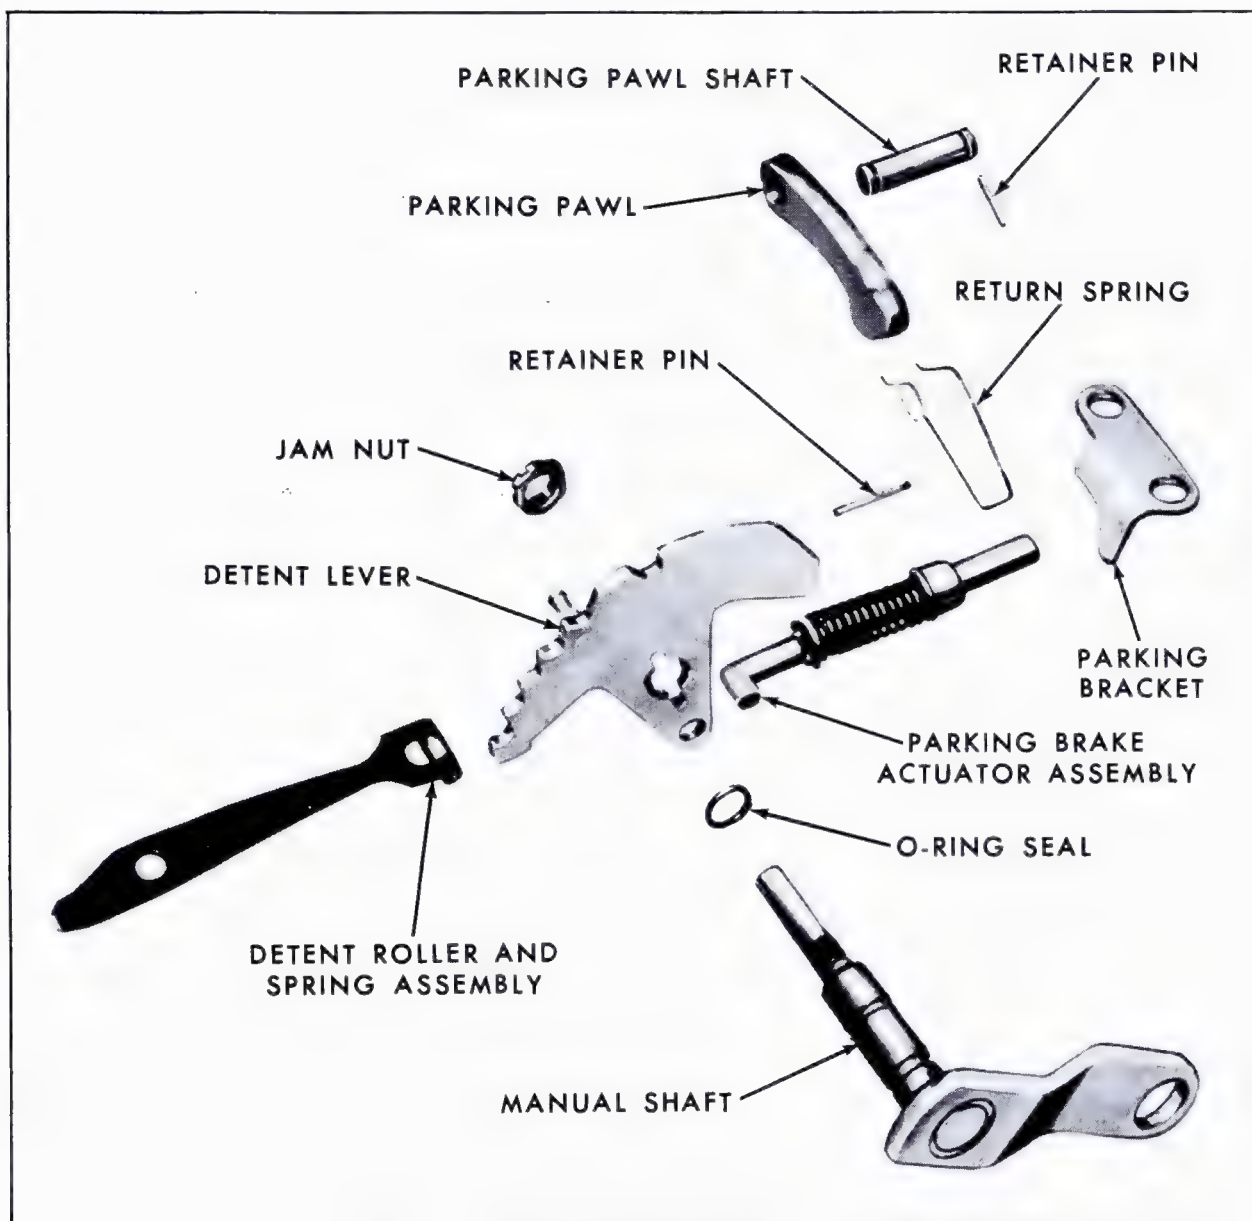

Fig. 7-161 Manual and Parking Linkage Disassembled
i. Remove Detent Lever, Manual Shaft, and Parking Linkage (Fig. 7-161)